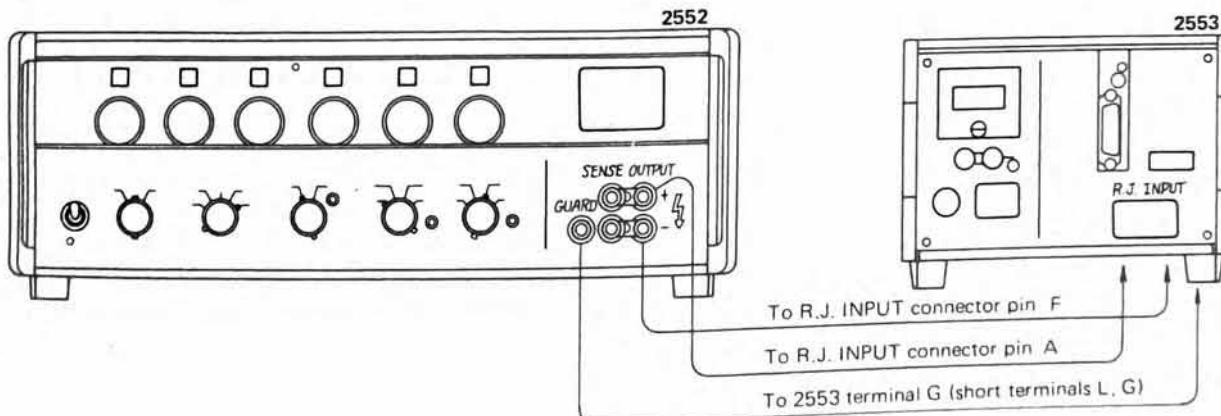

Figure 2-5. Setup for Accuracy Inspection of Reference Junction Temperature Detection.
- a) See Figure 2-5. Using the Type 2552, apply between the pins A (COM side) and F (- side) of the R.J. INPUT connector on the rear panel of this instrument voltages corresponding to the base-emitter voltages VBE at  $0^\circ\text{C}$  and  $50^\circ\text{C}$  of the temperature probe given in Table 2-5.